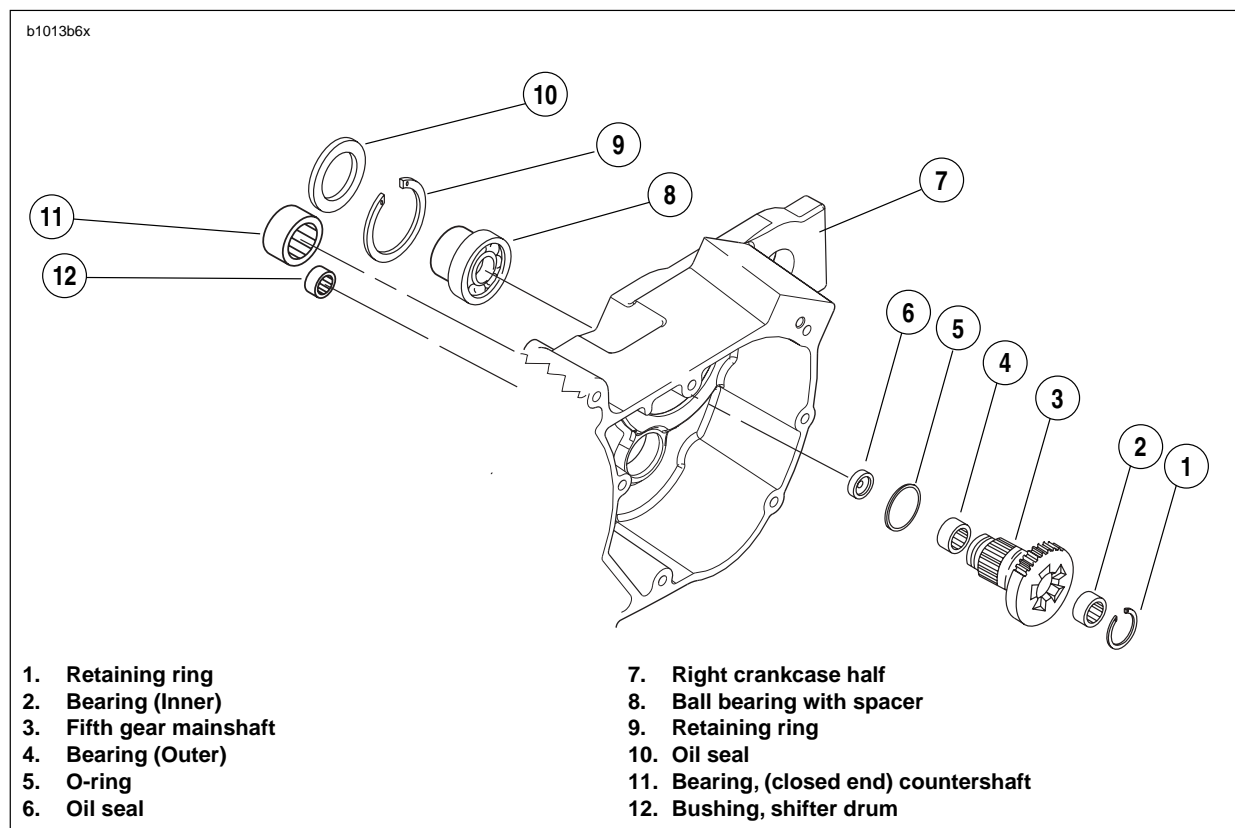

Figure 6-84. Transmission Assembly-Right Crankcase Half
2. See Figure 6-84. Install **new** o-ring (5) into groove in main drive gear. Lubricate o-ring with GENUINE HARLEY-DAVIDSON FORMULA+ TRANSMISSION AND PRIMARY CHAINCASE LUBRICANT.
See Figure 6-84. Make sure to install **new** o-ring (5) onto main drive gear before installing main drive gear into crankcase.
4. At outside of case, place INSTALLER CUP (Part No. HD-35316-12) (4), NICE BEARING (5), FLAT WASHER (6) and NUT (7) over end of bolt. Tighten nut until main drive gear bottoms against main drive gear bearing.
6. See Figure 6-84. Tap in **new** oil seal (6) at threaded end of main drive gear to a depth of 0.060-0.030 in. (1.524-0.762 mm).
1. See Figure 6-84. From inside transmission case use a suitable BEARING DRIVER/PULLER to remove countershaft bearing (8) from crankcase bore.
2. See Figure 6-84. From the outside of the case place the closed end needle bearing (11) open end first next to the bearing bore. Hold the driver squarely against the closed end of the bearing and tap the bearing into place. The bearing is properly positioned when it is driven flush or 0.030 in. (0.762 mm) below the outside surface of the case.
1. See Figure 6-84. Using SNAP-ON BUSHING DRIVER SET (Part No. A-157C) with a 1/2 inch adapter (Part No. A157-8), install **new** bushing (12).